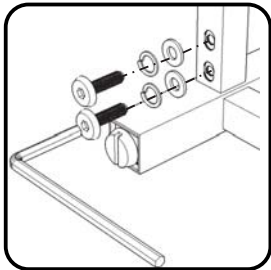

Figure 2
Attach Rails (D) to unit with Head Cap Bolts, Spring Washers and Flat Washers, tightening bolts only halfway. (See Figure 2)